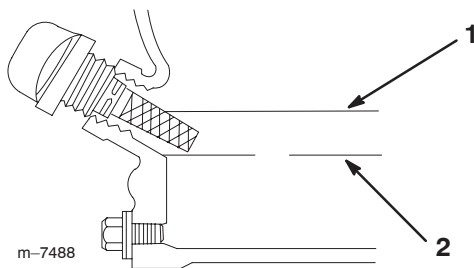

Figure 8
6. Pull the dipstick out and look at the end. There should be oil on the dipstick (Fig. 8).